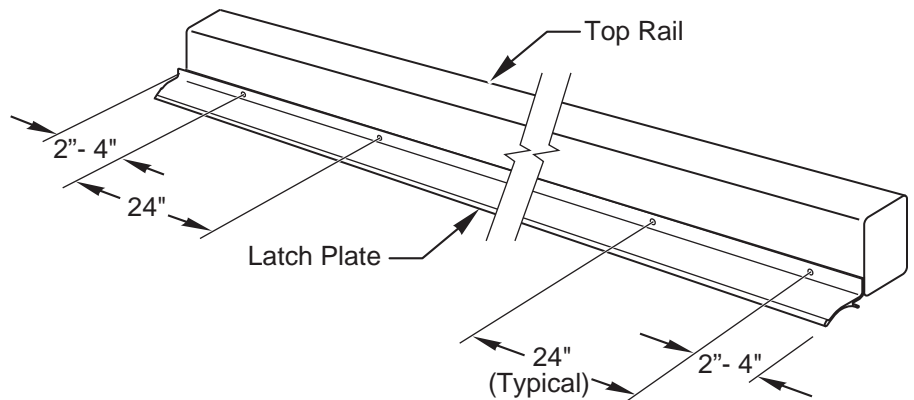

Figure 58
2) Figure 58. Drill a pilot hole 2"-4" in from each end and every 24" in each section.